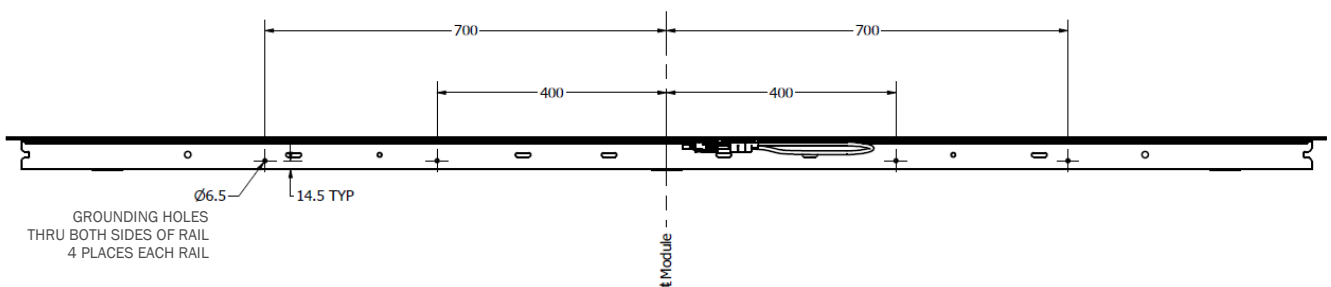

Figure 12: Grounding Hole Dimensions
- The use of common grounding hardware (such as lugs, clips, nuts, bolts, split-ring lock washers, flat washers and the like) to attach grounding/bonding device must be in conformance with the grounding device manufacturer's instructions. Figure 12 below indicates locations of grounding holes for S7 TR1.